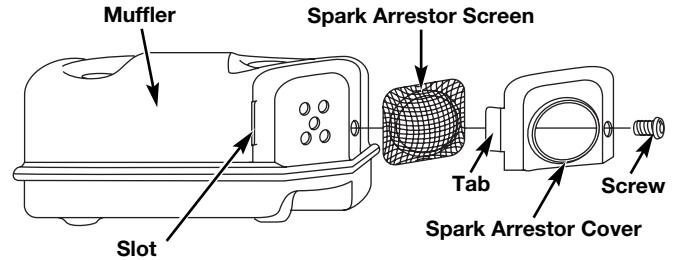

Fig. 42
2. With a flat blade screwdriver or Torx T-20 bit, remove the screw attaching the spark arrestor cover to the muffler (Fig. 42).